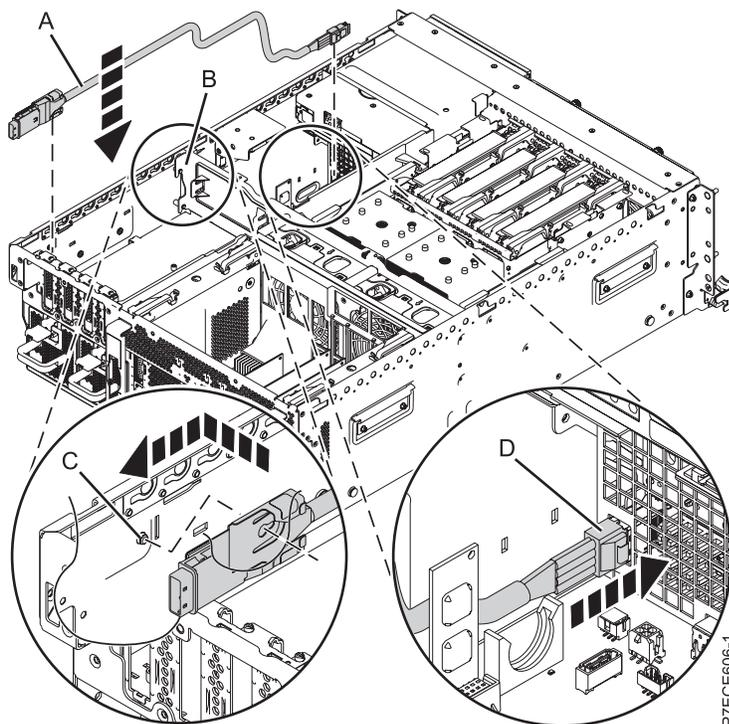

Figure 38. Installing the external SAS port
11. Connect the SAS shroud of the SAS cable (**A**) to the external SAS connection port on the system backplane, at the rear of the system, until it snaps in place, as shown in Figure 38.